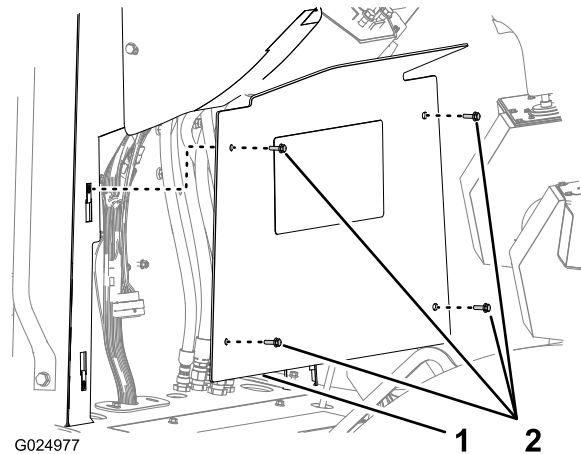

Figure 116
1. Remove the 4 hex-flanged head bolts (6 x 20 mm) that secure the lower-console panel to the console, and remove the panel (Figure 116).
3. Align the lower-console panel to the console (Figure 116).